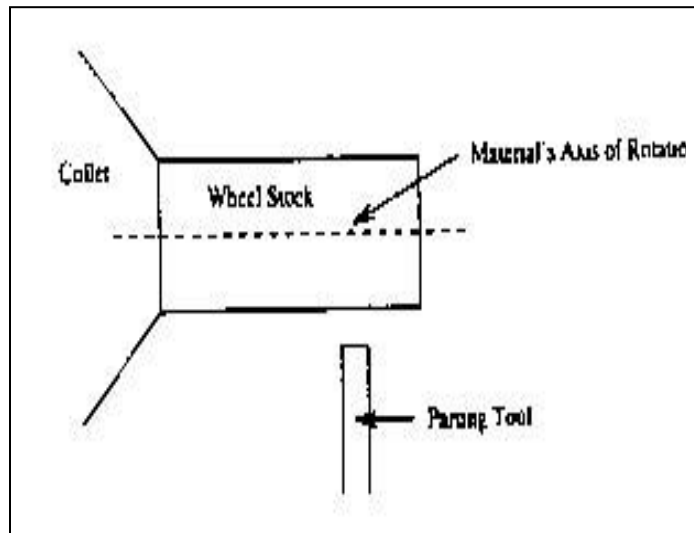

Figure 35: Aligning the Parting Tool So It Is Perpendicular.
Loosen the two nuts in front of and behind the compound rest with the ½” wrench. See Figure 35. Adjust the angle of the compound rest to 16°. Make sure that the edge of the compound rest is parallel to the surface of the taper, which you plan to cut. Note that each tick mark on the rest is one degree. Re-tighten the two nuts on both sides of the compound rest.
8. Using the parting tool and wheel gauge, measure (7/32" from wheel gage) and slice off two wheels from the stub (Figure 35). Again, Do NOT use auto feed for this process. Be sure to bathe the parting tool and the aluminum piece with cutting fluid continuously as you cut into the aluminum.